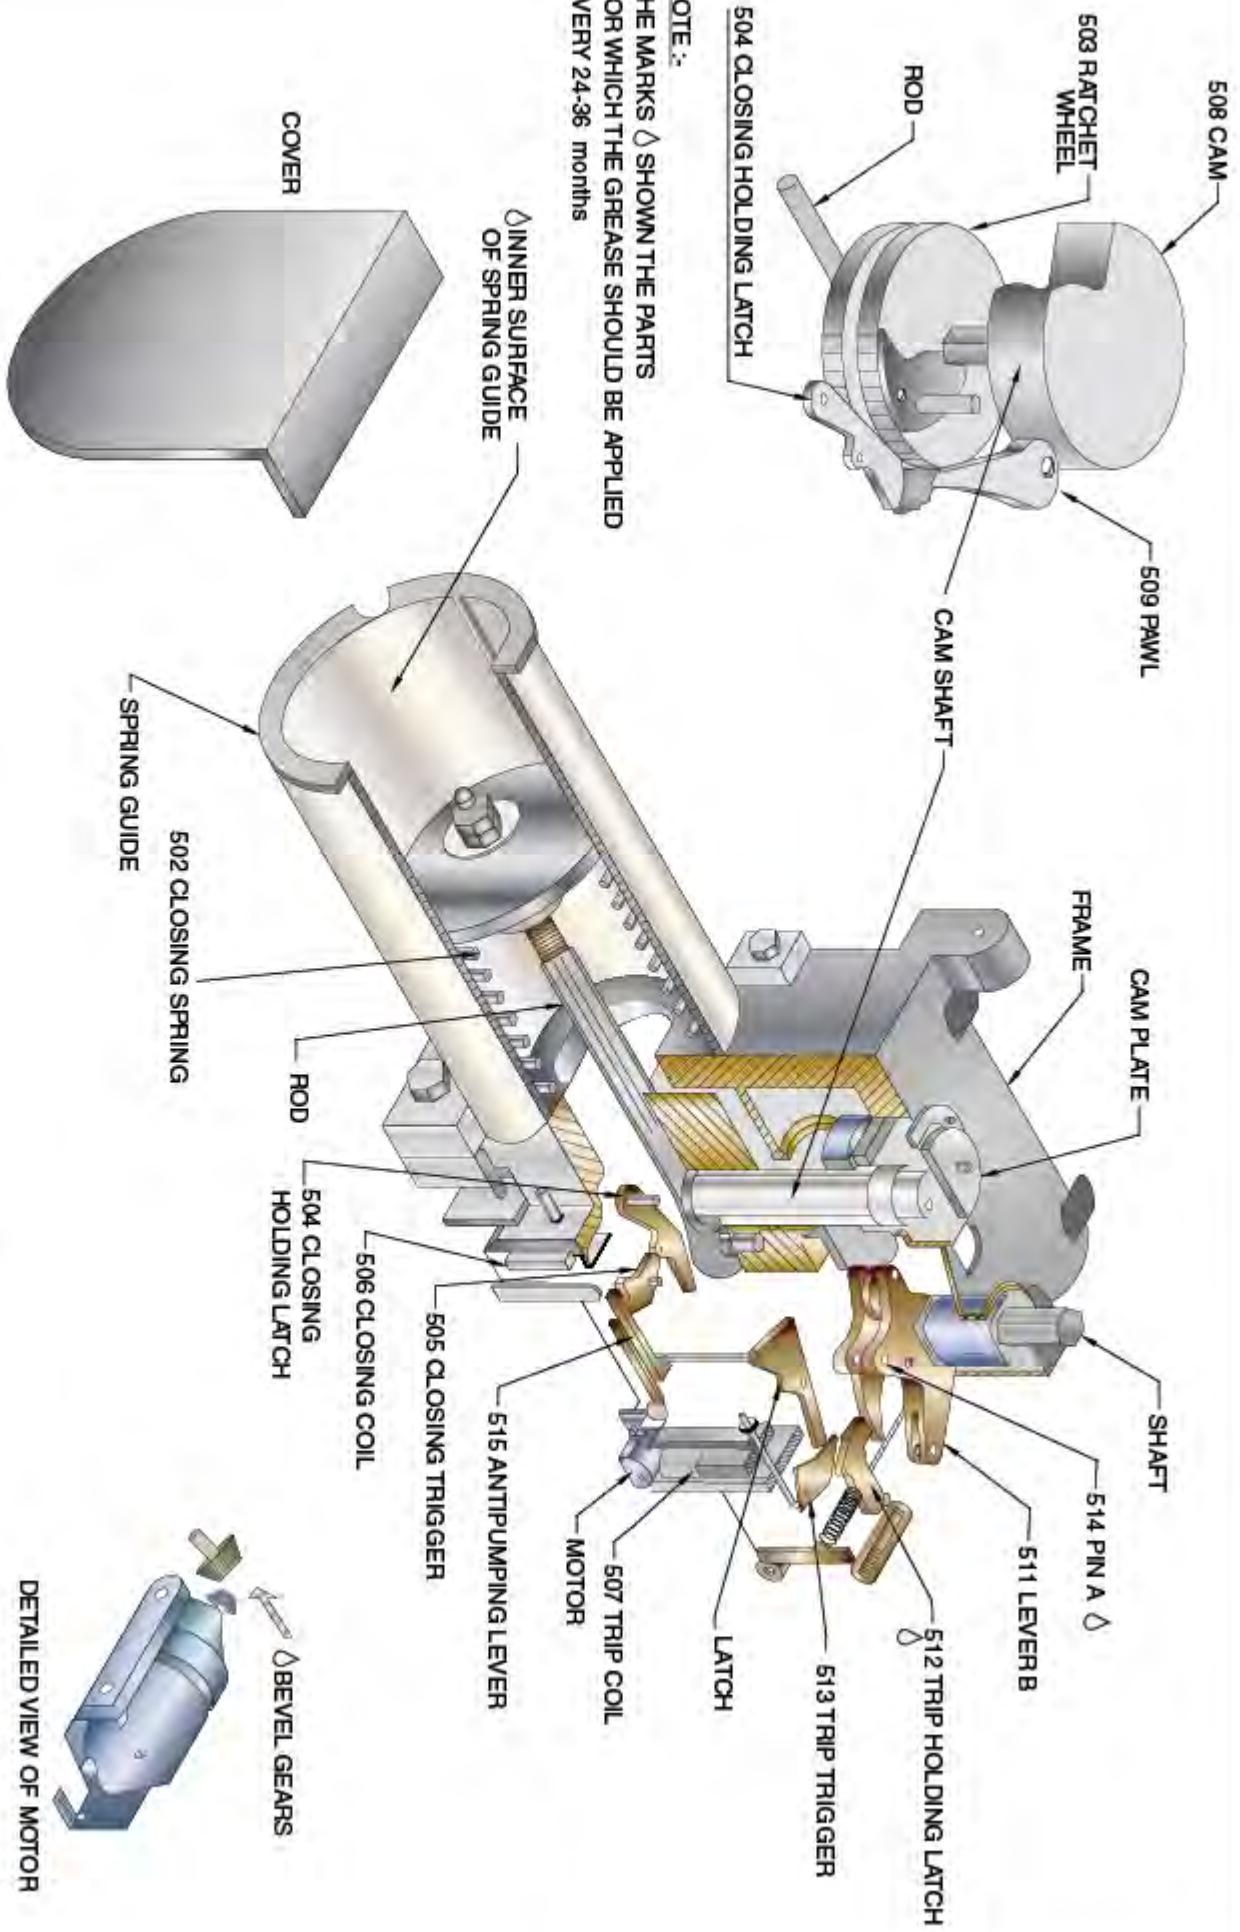

FIG. 16 SOLID CROSS-SECTIONAL VIEW OF TYPE BM SPRING OPERATING MECHANISM
Lubrication of the mechanism is required during routine inspections. The lubricant Darina # 2, available from CGL is the only authorised grease for this application. Relubrication requires removal of the old grease and applying fresh grease. Ref. Appendix - D. Fig. 16 shows the points requiring lubrication. All points should be relubricated at operational maintenance
- (1) The following items marked on Fig.16 are to be lubricated every 24-36 months.